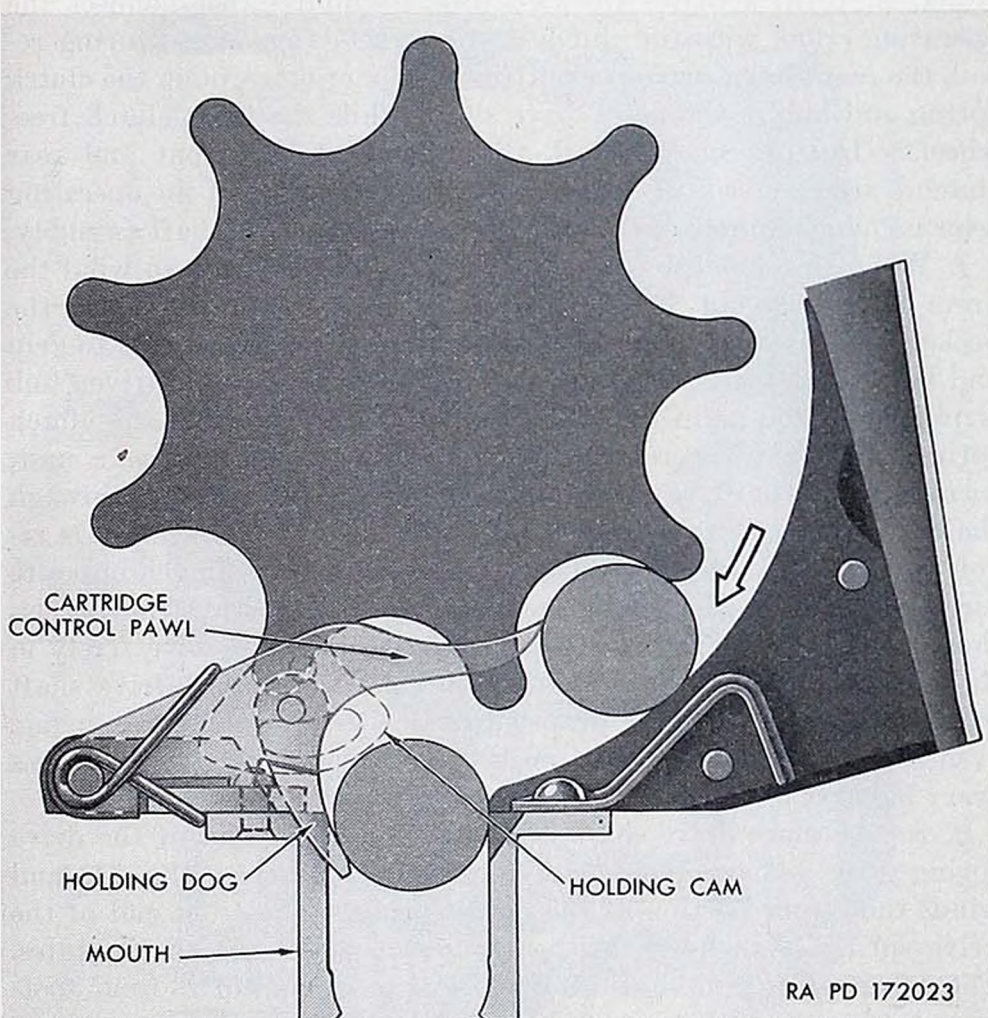

Figure 73. Action of cartridge control pawl and holding dog.
d. Just before the incoming rounds enter the feed mouth, they contact the lower side of the spring-loaded cartridge control pawl, raising it slightly. This action lifts the cartridge holding dog, allowing the cartridge to enter the mouth (fig. 73). When the last round has passed under the control pawl and entered the mouth